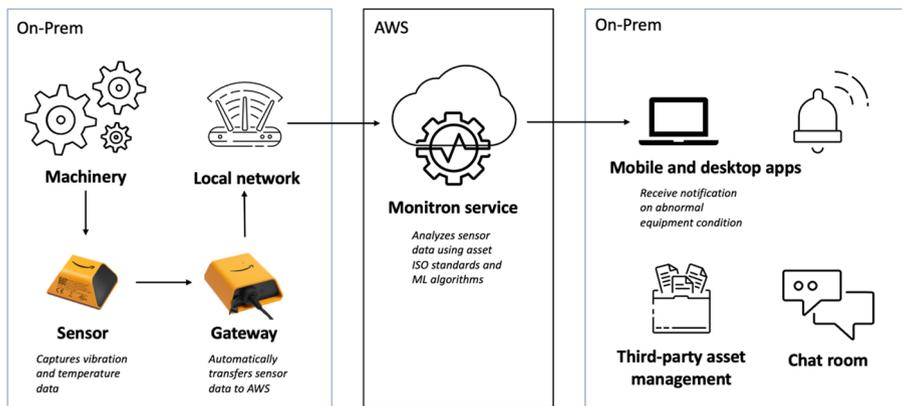

Figure 1-8. End-to-end architecture of Amazon Monitron
One of the AWS services that is widely used to provide predictive maintenance capabilities is Amazon Monitron. Built on AWS IoT and machine learning (ML) technologies, Amazon Monitron is essentially an end-to-end system that is fundamentally composed of sensors that capture temperature and vibration data from equipment, gateways for transferring this data to the AWS Cloud, a GUI/App, and a dedicated service to analyze the collected data. Amazon Monitron has the capability to export data to an Amazon Kinesis stream and Amazon S3, thereby ensuring that the data is accessible for downstream SAP integration. Figure 1-8 shows the high-level architecture. At regular intervals, the sensor takes a reading for a few seconds and sends the data to the gateway, which in turn sends it to AWS for analysis.